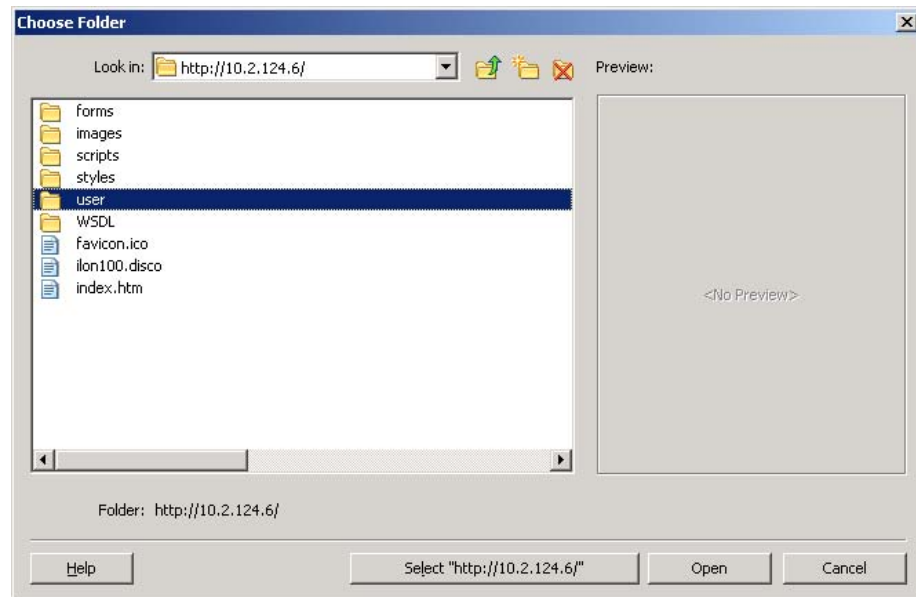

Figure 13.26 Choose Folder Window
Make sure the file name is set to **Start.htm**, and then click **Choose Folder** to create the directory for your custom area of the *iLON 100* server's Web site. You must create the new folder in the `/user` directory of your *iLON 100* server, and you must name this page **Start.htm**. The window shown in Figure 13.26 opens.
4. Open the `User` directory highlighted in Figure 13.26, and then click the new folder icon (📁) to create the directory for your custom Web site. Enter the name of the folder on the New Folder dialog that opens, and click **OK**. This returns you to the Choose Folder window. **Remember that the new folder you create must be in the `User` directory in order for the Web page to function properly.**